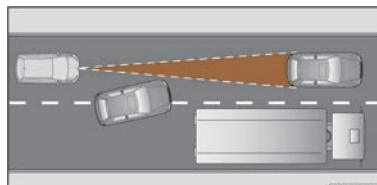

Fig. 126 Vehicle changing lanes.
- Vehicles that move into your lane, a short distance from your vehicle >>> **Fig. 126.**